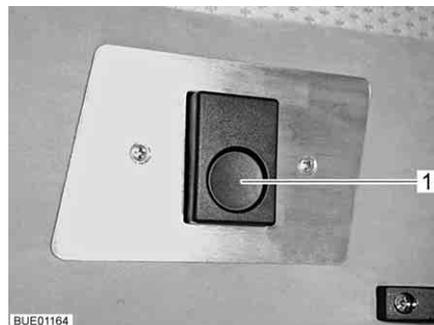

Fig. 121 Lock
- Push the release knob (Fig. 121, 1). The lock is released.